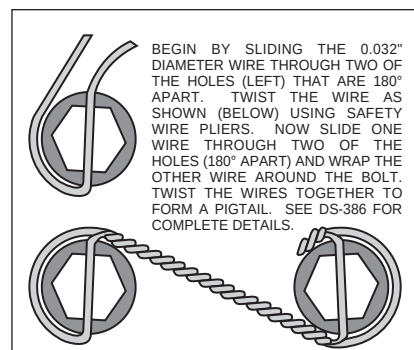

Figure 4. Safety Wire Diagram
- Slide the bracket kit assembly (1) onto the housing flange and then insert the axle assembly through the center hole of the bracket kit assembly (1). Secure using the stock Original Equipment Manufacturer (OEM) bolts and nuts. Stock OEM hex nuts that retain the bracket kit assembly (1) should be on the wheel side of the bracket. Apply red *Loctite*® 271 to the stock OEM bolt threads and torque to OEM specifications. Make sure the bracket kit assembly (1) brake pads are FACING OUTWARD TOWARDS THE WHEEL.
- With the larger I.D. side of the rotor (3) facing away from the hat (2), bolt rotor (3) to hat (2) through the backside of the rotor using washers (4) and bolts (5). Using an alternating sequence, apply red *Loctite*® 271 to the threads and torque bolts to 140 in-lb. For an added measure of security, the bolts may be safety wired using standard 0.032 inch diameter stainless steel safety wire as shown in Figure 4. Please refer to Wilwood's data sheet DS-386 (available at www.wilwood.com/Pdf/DataSheets/ds386.pdf) for complete safety wire installation instructions.
- Slide the rotor registration adapter (17) onto the axle register on the axle flange with the smaller O.D. facing toward the rotor/hat (2). Align the correct hole pattern in the hat with the stud pattern on the axle flange. **NOTE:** Some OEM and aftermarket axles come with stud sizes larger than 0.50" diameter. Verify stud size and have a qualified machine shop drill the hats to the correct size, if necessary. Slide the hat/rotor assembly (2 and 3) over the wheel studs covering the bracket kit assembly (1) and against the axle flange face. Check to be sure the hat seats squarely against the hub. Install a couple of lug nuts (finger tighten) to keep the rotor/hat assembly in place while continuing with the installation.